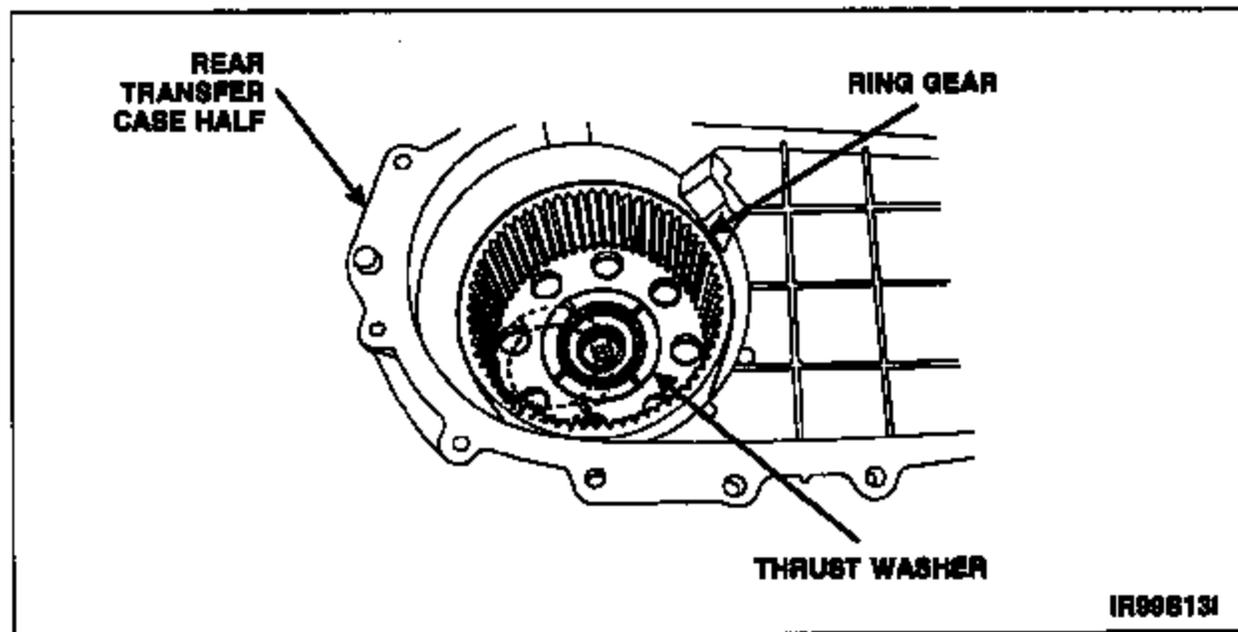

FIGURE 9
37. Raise the transfer case rear case half. Use caution when raising the case as the ring gear and thrust washer may come up with the case and fall off. See Figure 9. If the ring gear and the thrust washer come off with the case, remove and install them on the main shaft, which is still connected to the front transfer case half.